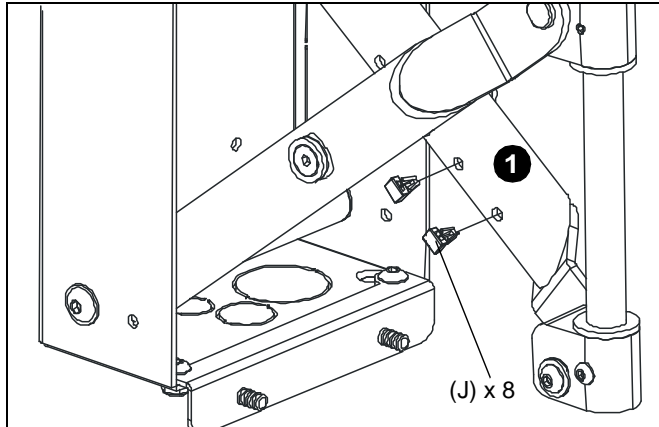

Figure 12
1. Locate and install cable tie clips (J) where desired for proper cable routing. (See Figure 12)